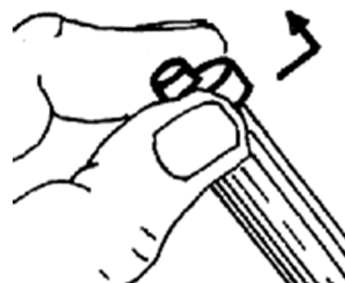

Fig. 3
3. Pull out valve holder (19) and tension spring (18) towards the rear.
4. Pull the inlet valve (17) from the valve holder (Fig. 3) using a forward motion.